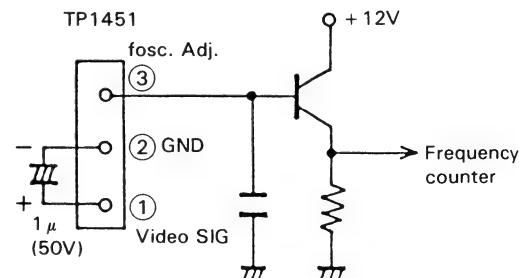

Figure 2-14. Buffer Circuit
1. Connect the frequency counter to pin ③ of TP1451 with a buffer in between, as shown in Fig. 2-14.
2. Add a  $1 \mu\text{F}/50\text{V}$  capacitor between pin ① (video signal) and pin ② (GND) of TP1451, as shown in Fig. 2-14.